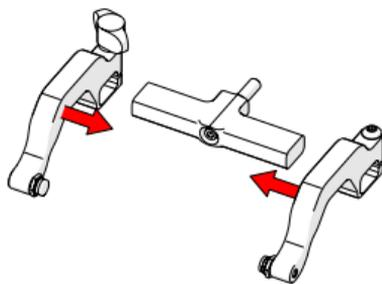

Fig. 126 - Place arms back onto yoke
6. Place the probe holder arms on the yoke and tighten the arm clamp screw and probe holder adjustment knob (Fig. 126).